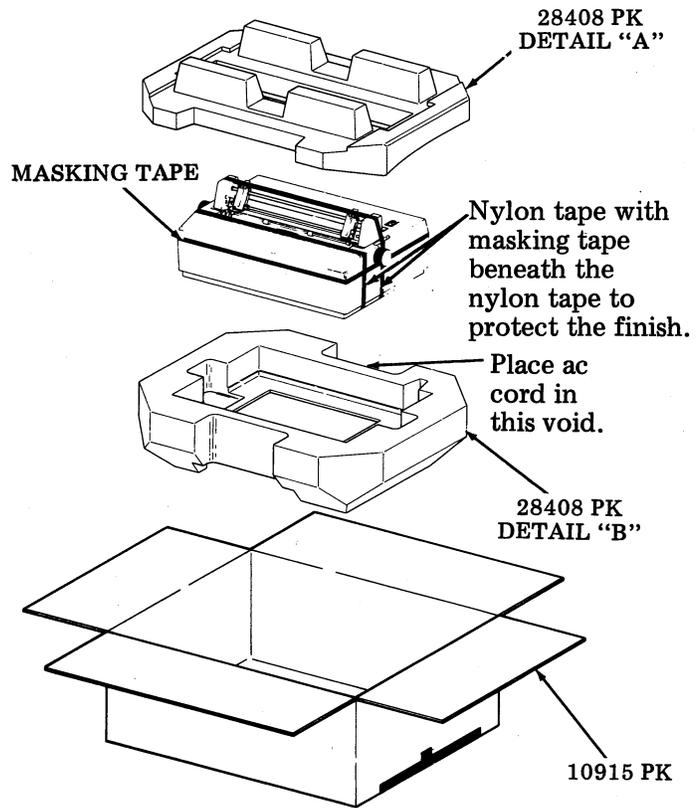

Fig. 12
5.04 Using the containers and packing details ordered separately, pack the printer. See Fig. 12.